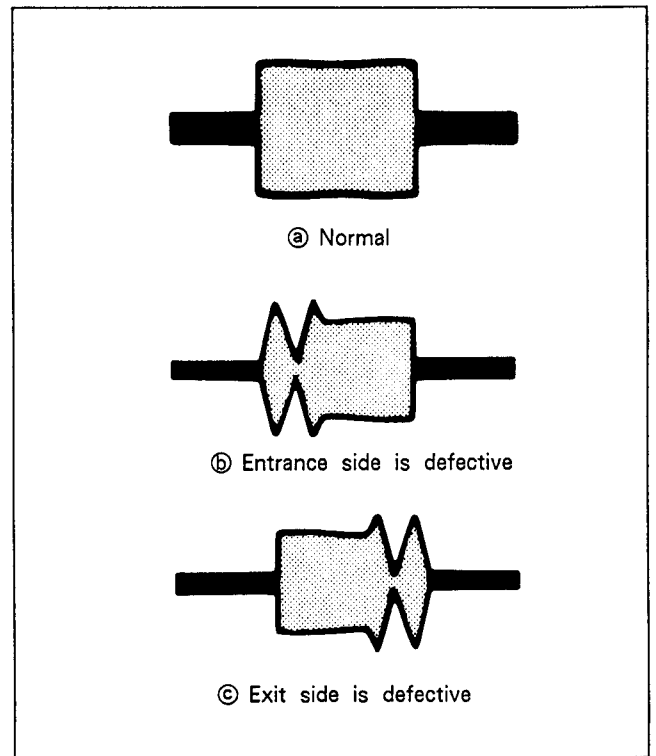

Fig. 7-69.
- 3) Set the SEL switch of the track shift jig to OFF, then playback the alignment tape (WR5-1C) for tracking, and confirm that the RF waveform of both the entrance and exit sides become flat (Fig. 7-69. ㊸).
- In case the RF waveform on the entrance side is not flat (Fig. 7-69. ㊹)
- In case the RF waveform on the exit side is not flat (Fig. 7-69. ㊺)